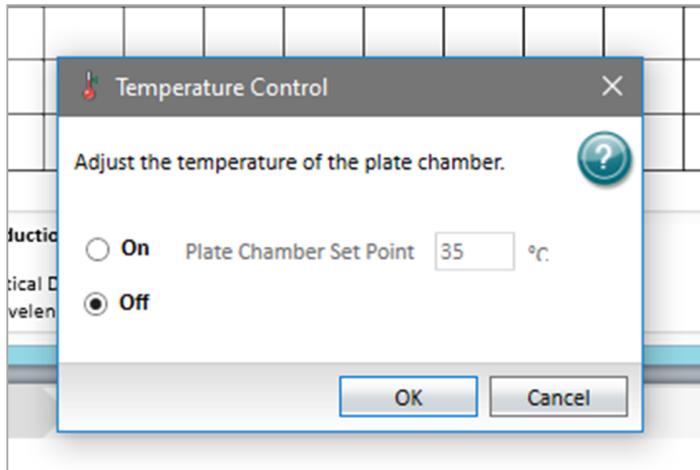

Figure 14: Temperature control setting options (range: +5°C – 45°C)
- click on the “on” button and define a temperature (figure 14)